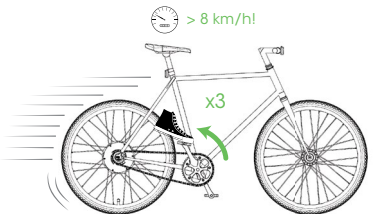

Figure 4: BIKE+ all in one activation procedure
2.1 BIKE+ all in one activation procedure (see Figure 4)